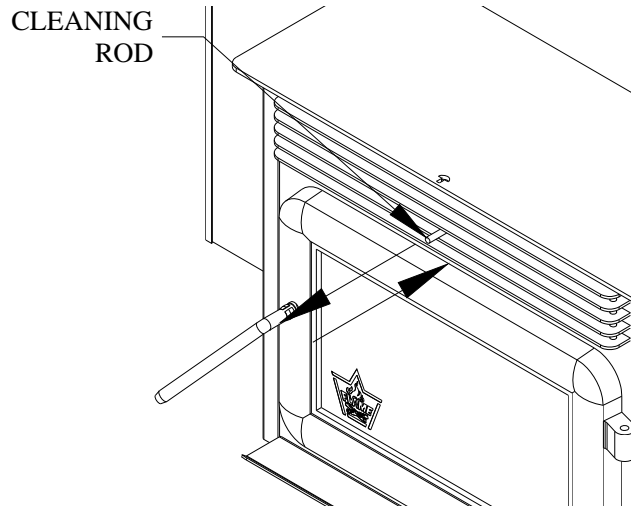

Figure 40
- c. With the door closed, clean heat exchanger tubes by sliding the cleaning rod back and forth. (see Figure 40) .
- a. **Heat Exchange Tubes** – Your FP-35 stove is designed with a built-in heat exchanger tube cleaner. This should be used weekly to remove accumulated ash on the tubes. Slide the cleaning rod back and forth two or three times from front to back (refer to figure 40). When finished, push the cleaning rod back in, behind the louvers.